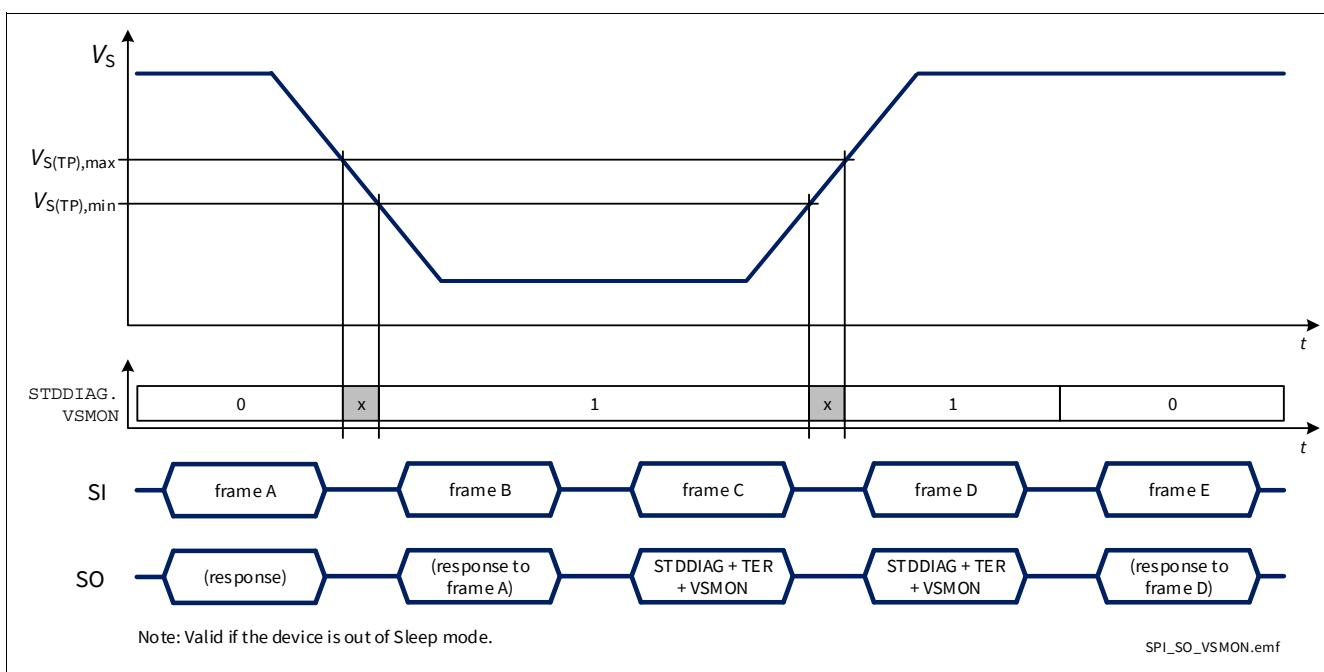

Figure 45 SPI response in case of voltage drop on battery
- When $V_S < V_{S(TP)}$ and $DCR.MUX \neq 111_B$, as shown in Figure 45